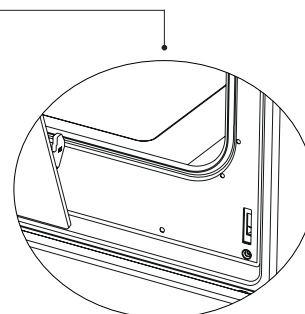

Figure 15.2
4. To remove the oven door, pull it upwards by holding it with both hands when close to the closed position as shown in figure 15.2.